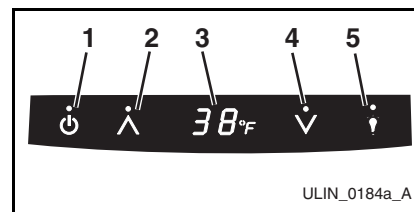

Figure 4
The electronic control with digital display (Figure 4) is configured to show a single temperature continuously. This set-point temperature is a base number used by the controller to maintain the temperature zones in your unit. The factory default set-point temperature is 38°F. This set-point temperature is used as a gauge if further temperature adjustments are required.
A DISPLAY OFF mode is available through the control panel. This mode allows you to control whether the display (**Figure 4, 3**) will be ON or OFF whenever the door is closed. The icon touch sequence that follows will switch between both modes:
1. Touch and hold the WARMER icon (**Figure 4, 2**), and within five seconds press the POWER icon (**Figure 4, 1**) three times.
U-Line products supplied for 110 VAC operation have temperatures displayed in a default Fahrenheit (°F) configuration (**Figure 4, 3**). Models supplied for 220 VAC operation have temperatures displayed in a default Celsius (°C) configuration.
The display can easily be adjusted for either type of temperature display. Press and hold the LIGHT icon (**Figure 4, 5**) and within five seconds press the COOLER icon (**Figure 4, 4**) three times to change the display as desired.
1. Press and hold the WARMER icon (**Figure 4, 2**) for approximately five seconds and release when the °F symbol in the display (**Figure 4, 3**) begins to flash.